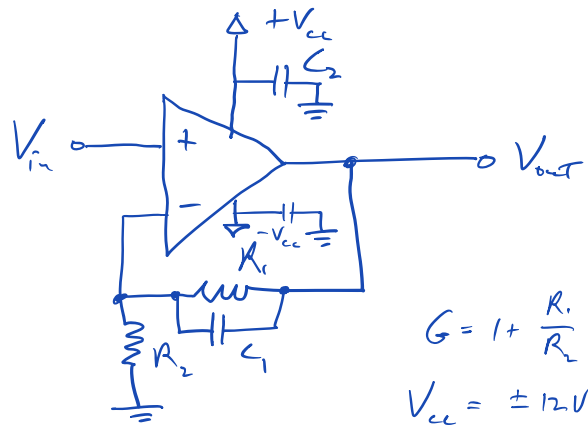

Figure 1: Typical napkin-scrrawl. (Spilled beer omitted for clarity.)
We're going to keep it simple by starting with an op-amp based non-inverting amplifier. As is traditional for any electronic design, we start with a sketch on the back of a napkin. (See figure 1.)
12. One more thing: The TL061 chip has two pins that we're not using in the napkin-based design shown in figure 1. Those pins are for the offset adjust. If you would like an offset adjust trimpot in your circuit, go ahead and connect one. Otherwise, we need to tell KiCAD that those pins were not forgotten but were deliberately left disconnected. The eighth icon down on the right lets you place 'no-connect flags' on the circuit. Use this tool to put \times 's on the unused pins.